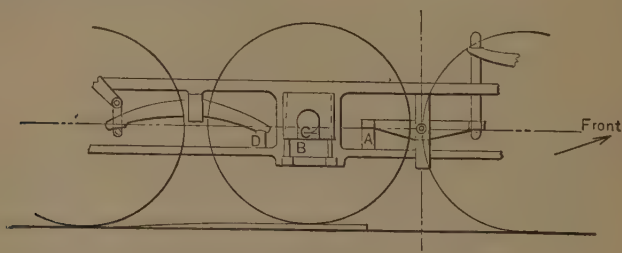

Fig. 416. Broken Driver Box.
Q. Suppose in a ten-wheeler with such a mixed spring arrangement as is shown in Fig. 416 the main driver box